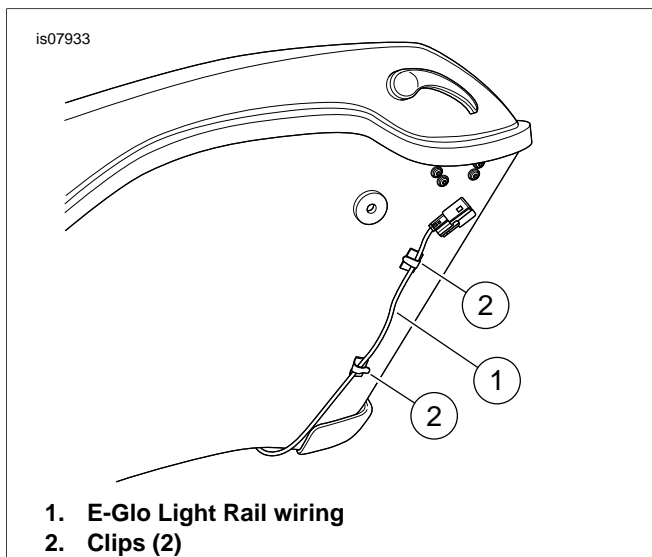

Figure 2. Wire Routing
13. See Figure 2. Route the E-Glo Light Rail wiring as shown. Retain the wiring with the clips provided in the kit.